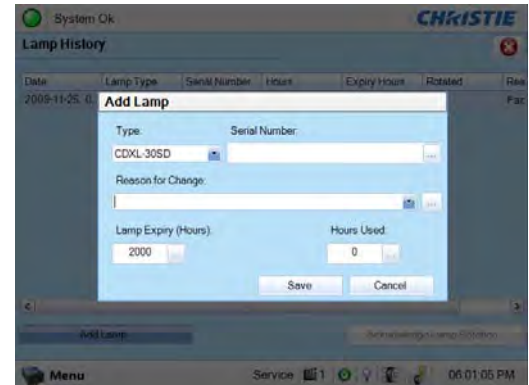

Figure 5-49 Add Lamp Window
6. Perform software adjustments. In the **Advanced Setup: Lamp History** window, click the **Add Lamp** button and record lamp type, serial number, reason for change and number of the hours logged on to the lamp. If the lamp has not been previously used, enter 0. Press **Save** to save the data entered (**Figure 5-49**).